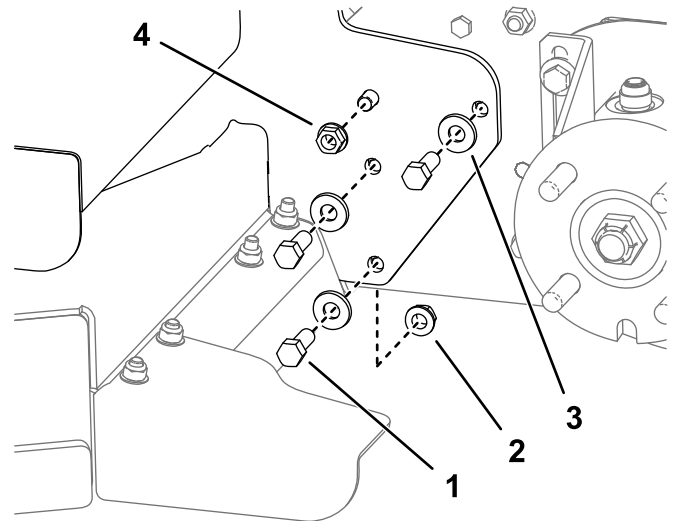

Figure 3
1. Install 8 bolts (3/8 x 1 inch), curved washers, and flange nuts to secure the rotary cutting deck to the power unit as shown in Figure 3.